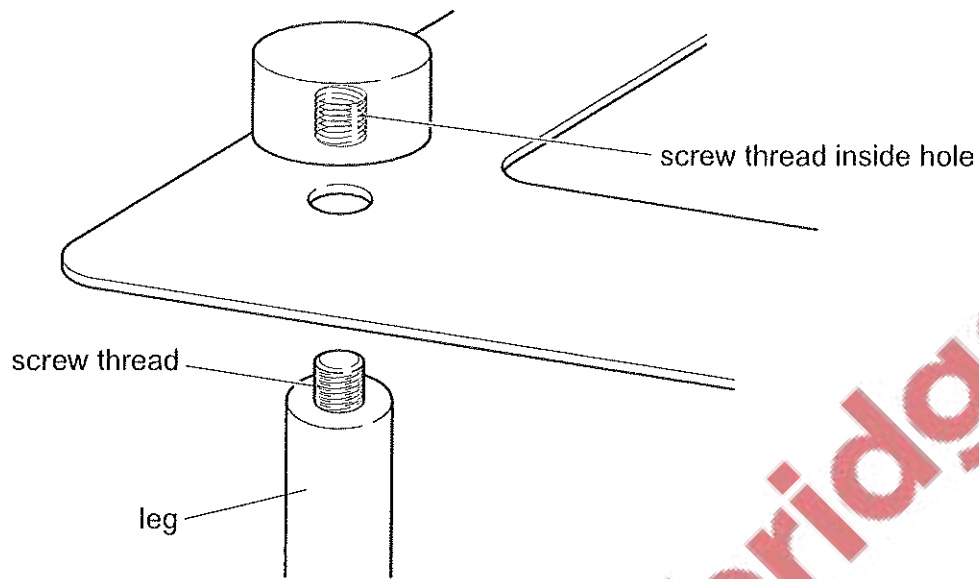

Fig. 11.3
- (b) Fig. 11.3 shows how the legs are fitted to the top of the pen and pencil holder by means of screw threads.